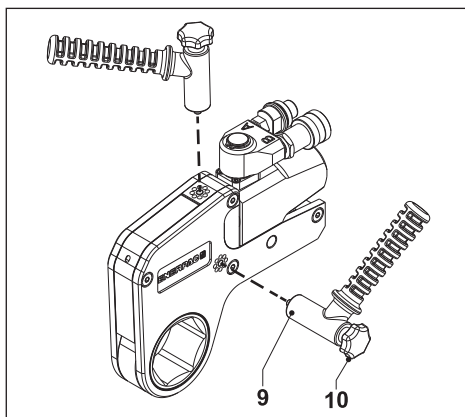

Fig. 3
3.2 To attach the positioning handle (Fig. 3)
- Secure the positioning handle (9) with thumb screw (10). Positioning handle can be installed on either side of wrench or on top of wrench (as needed).